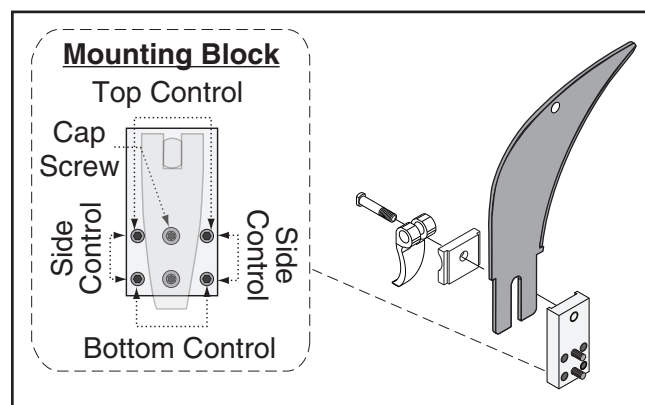

Figure 113. Set screws for adjusting spreader/riving knife position.
Figure 113 shows the set screws associated with controlling the mounting block position.
4. Loosen the two cap screws on the mounting block, then adjust the set screws on the block to move it in the necessary direction (see "Mounting Block" inset in **Figure 113**).